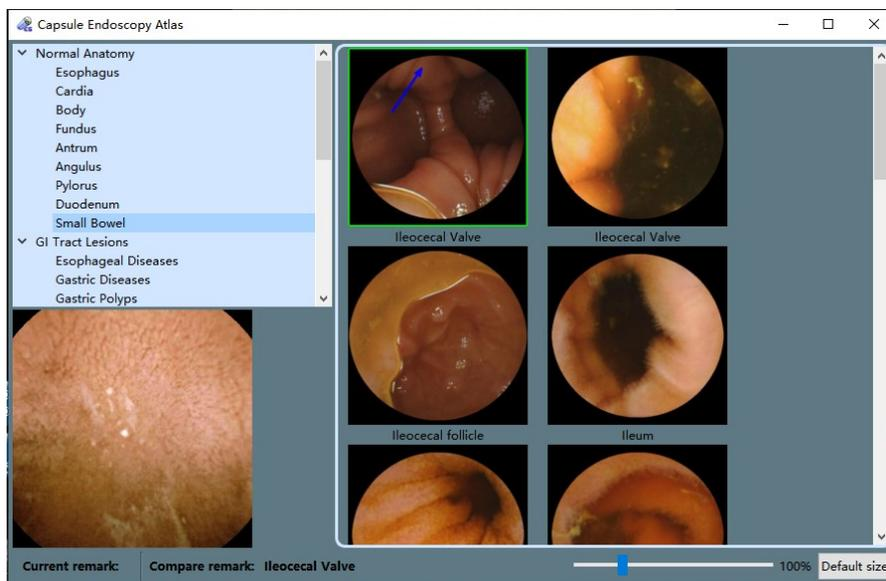

Figure 4-65: Normal Anatomy Images of Small Bowel
2. Click on the normal anatomy images or typical GI tract lesions in stomach, duodenum, and small intestine. Select the stomach area or lesion type to be compared and view the corresponding normal anatomy images or lesion images, as shown in Figure 4-65.